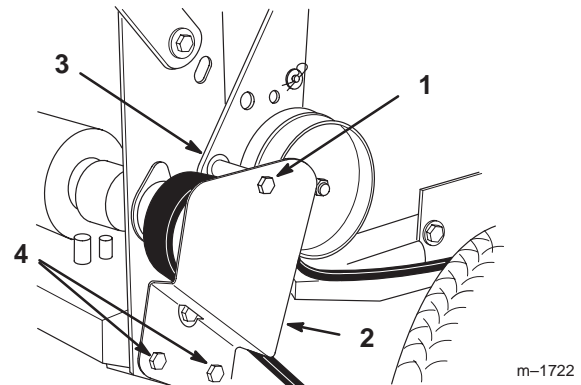

Figure 31
1. Remove top capscrew securing idler support and idler bracket to rear frame (Fig. 31).
2. Loosen bottom two mounting screws enough to allow belt to pass between drive pulley and idler support (Fig. 31).